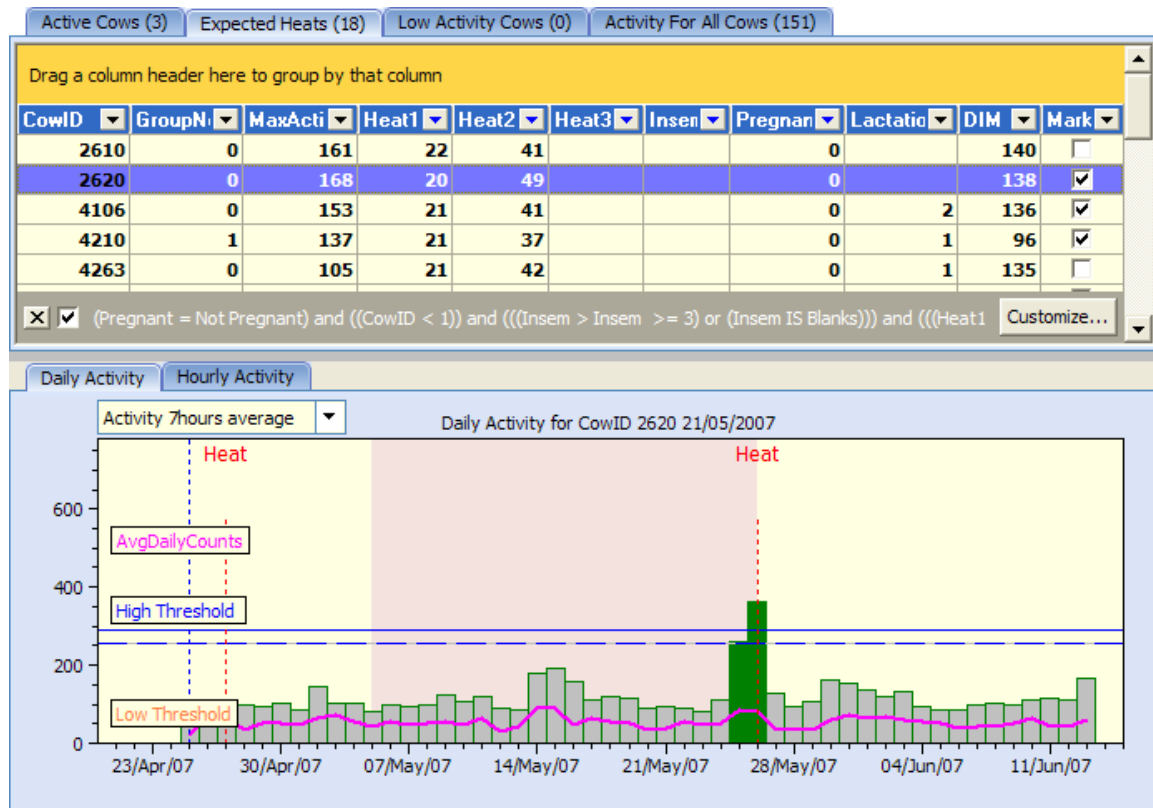

Figure 31 Mark Cows.
- Under the 'Mark' column to the far right of the grid on the top half of the screen displayed in Figure 31 above, check the box with the mouse corresponding to any CowID's you wish to draft.